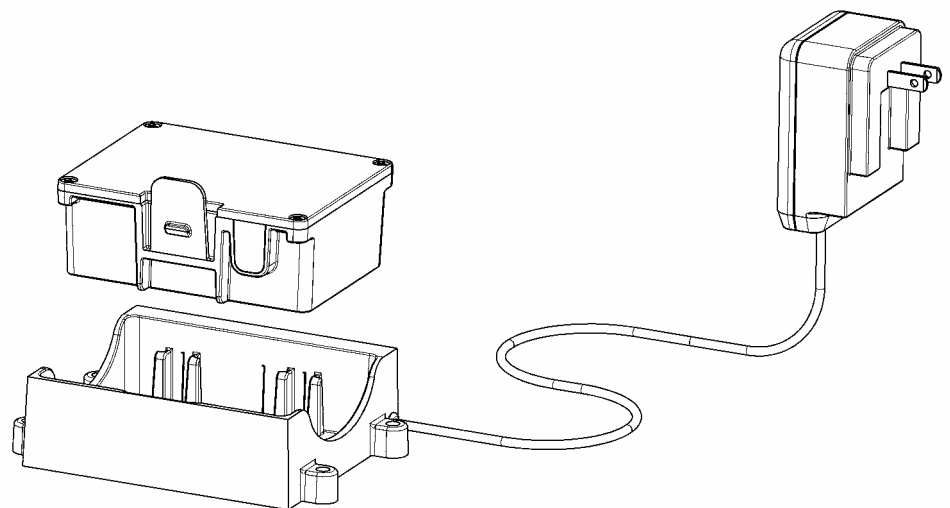

Figure 2-14: Battery and Batter Charger
- To charge a battery, insert it in the battery charger (see Figure 2-14). Then plug the battery charger into a standard electrical outlet (110 volts). It will take 12 to 16 hours to provide the initial charge for a new battery. Once a battery has been used, it should take no more than 3 to 4 hours to recharge it. A red light on the battery charger indicates that the battery is being charged. A green light indicates that the battery is fully charged. When a battery is fully charged, the charger goes into trickle mode, so there is no danger of damaging a battery by overcharging it.